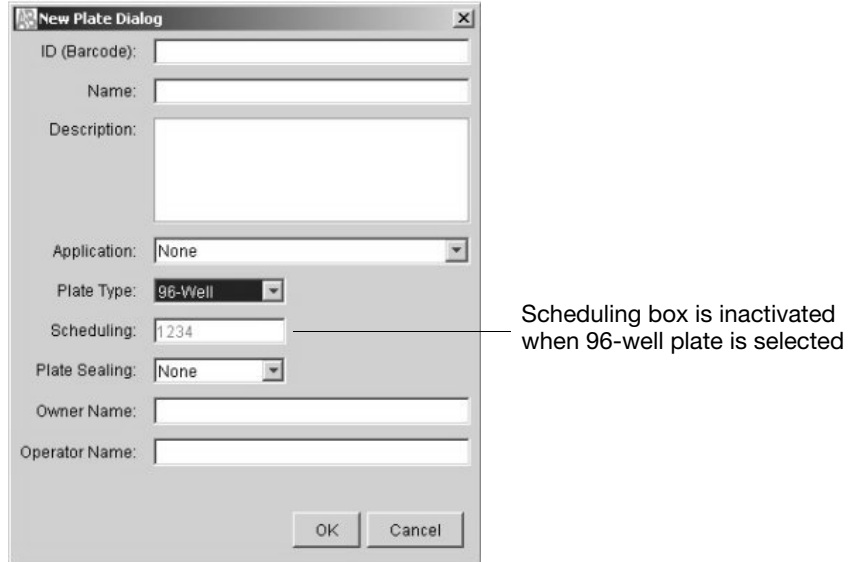
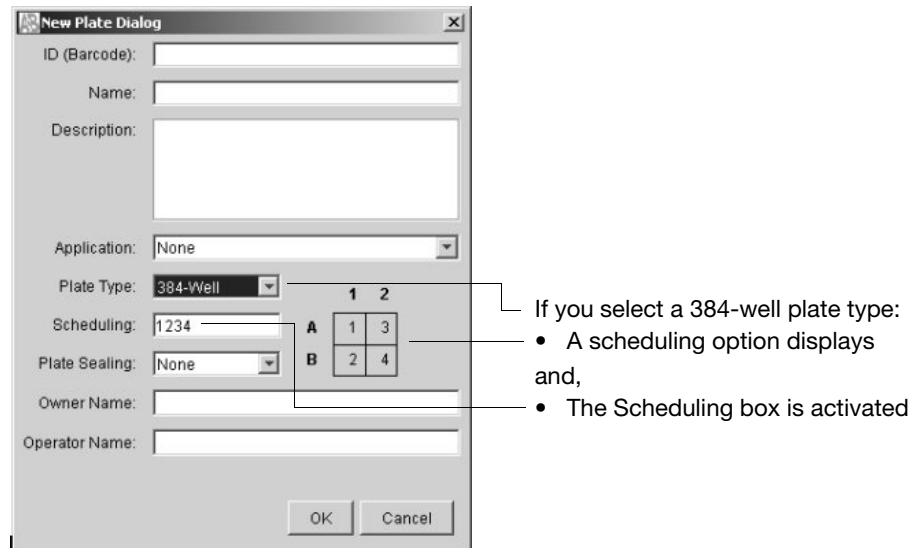

Figure 2-2 96-well plate type selected in New Plate dialog box
Figure 2-3 384-well plate type selected in New Plate dialog box
2. Click **New** to open the New Plate Dialog box (see Figure 2-2 and Figure 2-3 on page 77).